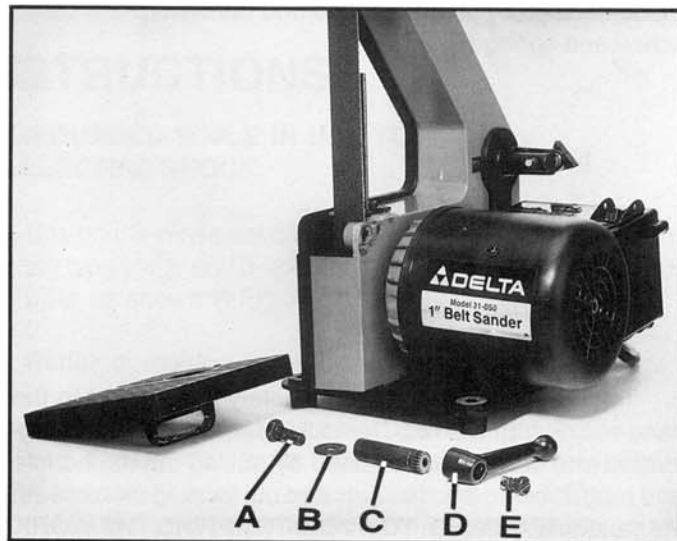

Fig. 2
1. Locate the 1-1/8" long screw (A) Fig. 2, flat washer (B), and table locking handle assembly (C), (D) and (E). **NOTE:** The table locking assembly (C, D and E) are shipped assembled. For ease in assembling table to sander, remove screw and spring (E), and handle (D) from locking stud (C).